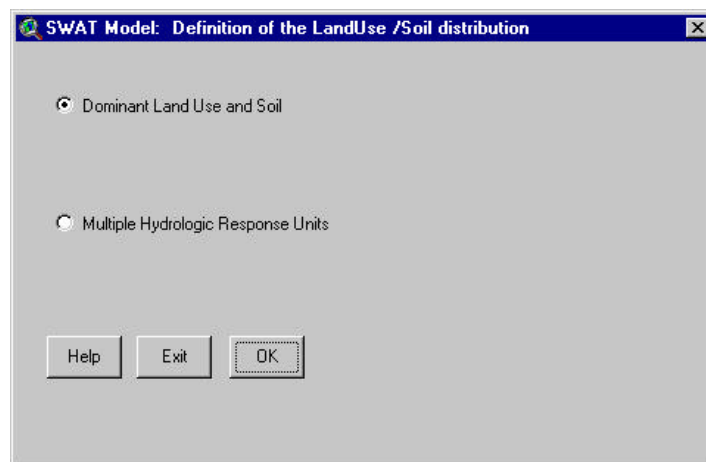

Figure 15.36
2. The Land Use/Soil Distribution dialog box will be displayed (Figure 15.36).